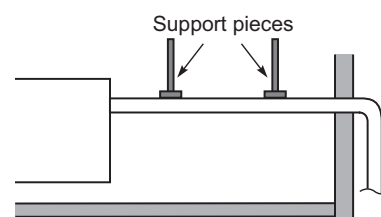

Fig. 2-87
- Do not apply force to the piping on the unit side when connecting the drain pipe. The pipe should not be allowed to hang unsupported from its connection to the unit. Fasten the pipe to a wall, frame, or other support as close to the unit as possible. (Fig. 2-87)